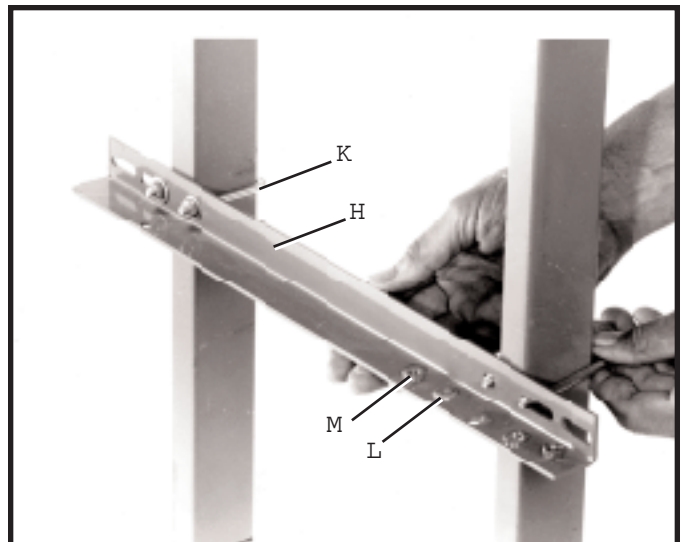

Fig. 15
4. Place the shelf support (H) Fig. 15, against table legs and fasten with U-bolts (K), flat washers (L), and hex nuts (M) as shown.